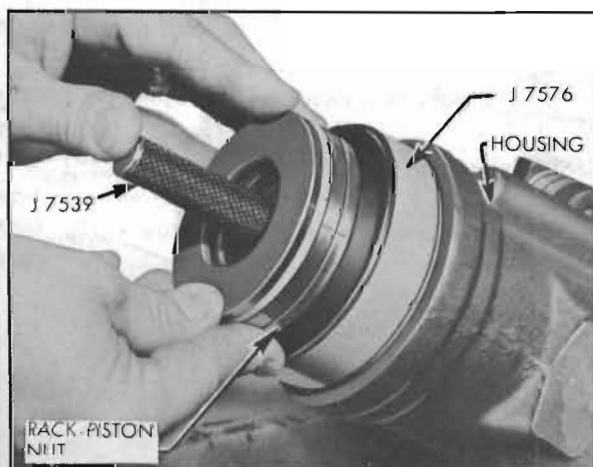

Figure 8-53—Installing Rack-Piston Nut in Housing
6. Install ring compressor sleeve tool J-7576 in gear housing and hold it tightly against shoulder in the housing. See Figure 8-53. Insert the rack-piston nut into the housing until the ball retaining tool J-7539 engages the worm. Turn the stub shaft, drawing the rack-